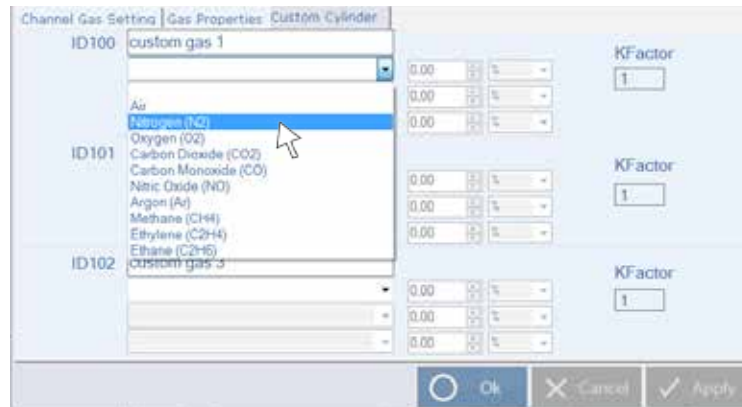

Fig. 24
- **Pull Down Gas Menu** – Here (Fig. 24) you can indicate the gas type you will choose for your custom cylinder.